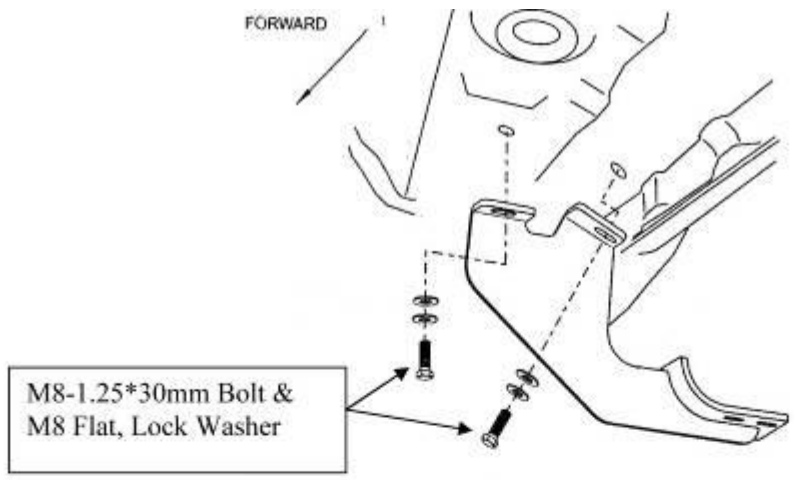

Figure 1. Passenger Side – Front Bracket
1. Install driver side bracket as shown (see Fig 1) placing bracket over existing bolt and tightening with M8 Flange nut. Place one M8- x 25mm hex head bolt, M8 flat washer, and M8 lock washer through bracket to existing hole on underside of body panel (see Fig 1). Hand tightens.